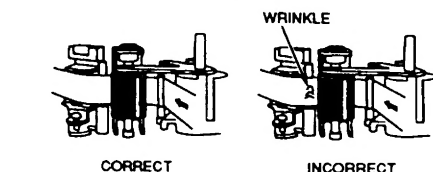

Fig 30.
- 2: Turn the REVIEW ARM height (A) nut so that the edge of the tape barely touches the lower part of the TAKE-UP TAPE GUIDE, without any curl or wrinkle between the TAKE-UP TAPE GUIDE and the CAPSTAN SHAFT as shown in Fig 30.
- 4: Confirm there is no curl or wrinkle near the REVIEW ARM's guide. If curl or wrinkle of the tape occurs, slightly turn the (A) nut (Shown in Fig 30.) until it disappears.